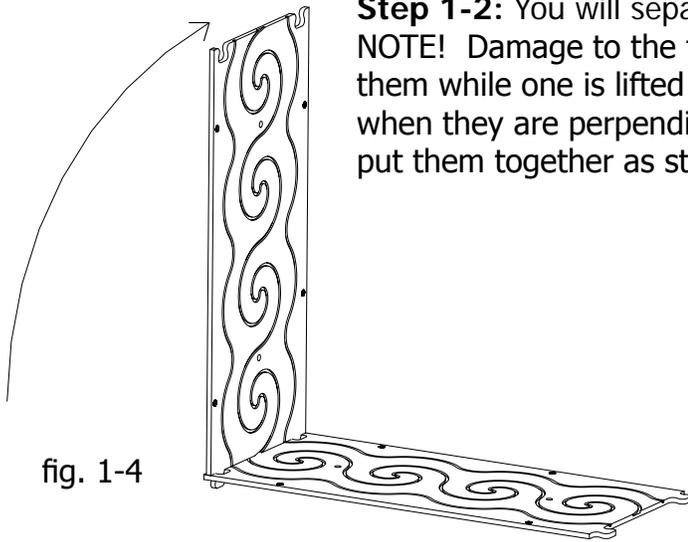
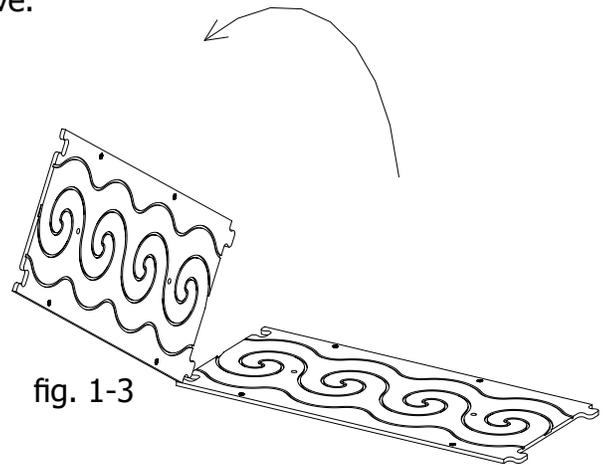

fig. 1-4
fig. 1-3
**Step 1-2:** You will separate the templates in exactly the same manner. **NOTE!** Damage to the templates could result from attempting to separate them while one is lifted at an angle (fig. 1-3). You can pull them apart when they are perpendicular (fig. 1-4), or, preferably the same way you put them together as stated above.